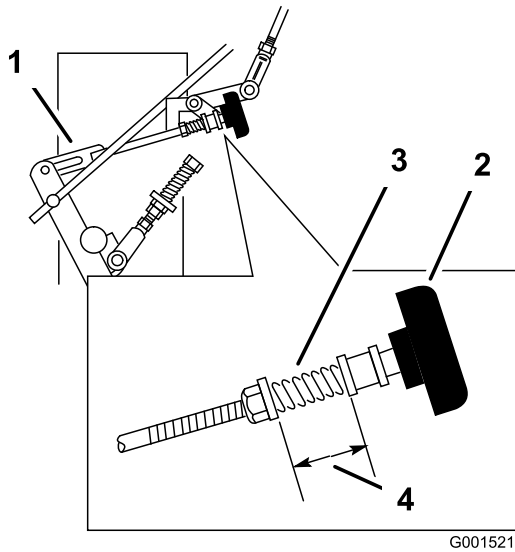

Figure 41
3. Adjust the right linkage by turning the quick track knob counterclockwise until the tire begins to rotate forward (Figure 41).
- Turn the knob clockwise 1/4 of a turn at a time. Then move the speed-control forward and back to neutral. Repeat this until the right wheel stops rotating forward (Figure 41).
- The spring that keeps tension on the knob should normally not need adjustment. However if an adjustment is needed, adjust the length of the spring to 26 mm (1 inch) between the washers (Figure 41).
- Adjust the spring length by turning the nut at the front of spring (Figure 41).